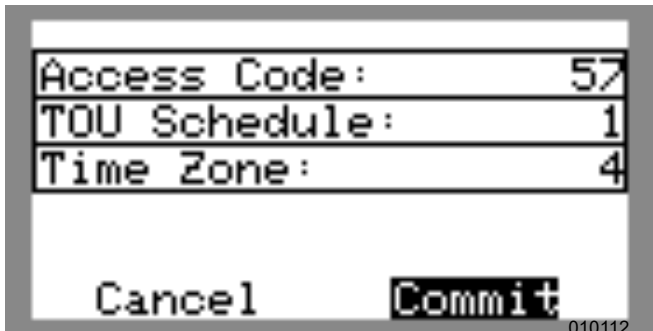

Figure 6-13. Configuring TOU Schedule (4 of 4)
8. See Figure 6-13. To commit changes to all entries, highlight Commit. Press the center button, then use the arrows and center button to confirm the choice.